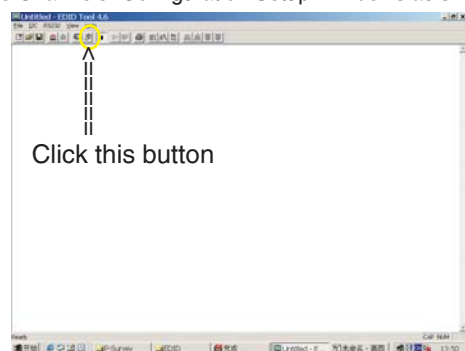

Fig. 28
1. Click  icon as shown in Fig. 11 from the tool bar to bring up the Channels "Configuration Setup" windows as shown in Fig. 28.